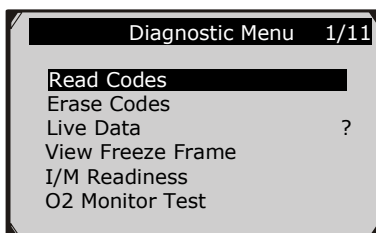

Figure 5.4
- 9) View a summary of system status (MIL status, DTC counts, Monitor status) on screen. (Figure 5.2) Wait a few seconds or press any key for **Diagnostic Menu** (Figure 5.4) to come up.
- 1) Use the **UP/DOWN** scroll buttons to select **Erase Codes** from **Diagnostics Menu** and press the **OK** button. (Figure 5.4)
- 1) To view live data, use the **UP/DOWN** scroll button to select **Live Data** from **Diagnostic Menu** and press the **OK** button. (Figure 5.4)